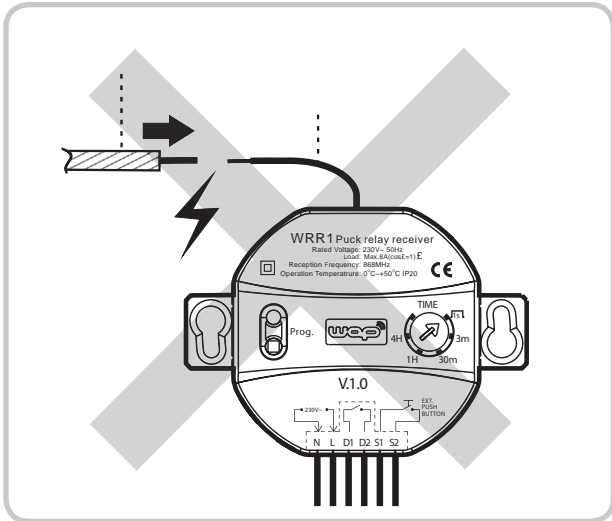

Fig. 2
- Do not connect live cables to the aerial. This causes disturbance to it (see Fig. 2). Do not remove the aerial's sheath either (see Fig. 2).